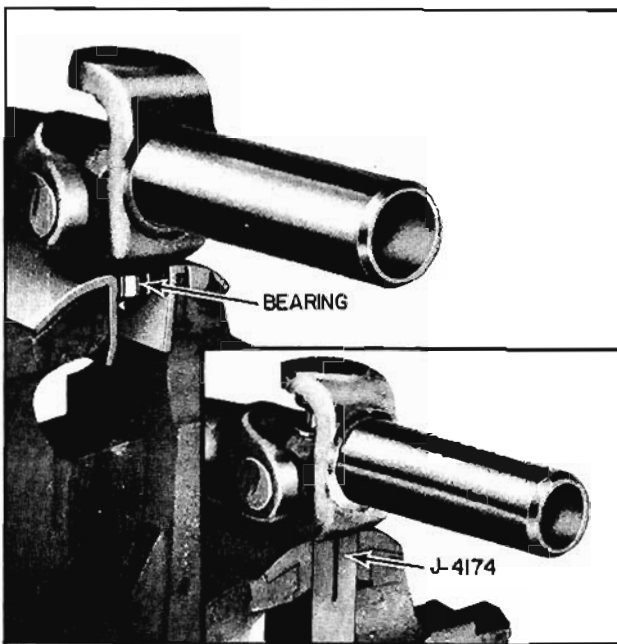

Fig. 10-145 Bearing Removal
4. Clamp the partially exposed bearing in a brass jawed vise, then tap yoke until bearing is removed. (Fig. 10-145) Remove bearing from vise.
NOTE: The use of Tool J-4174 will facilitate removal of bearings. (Inset, Fig. 10-145)